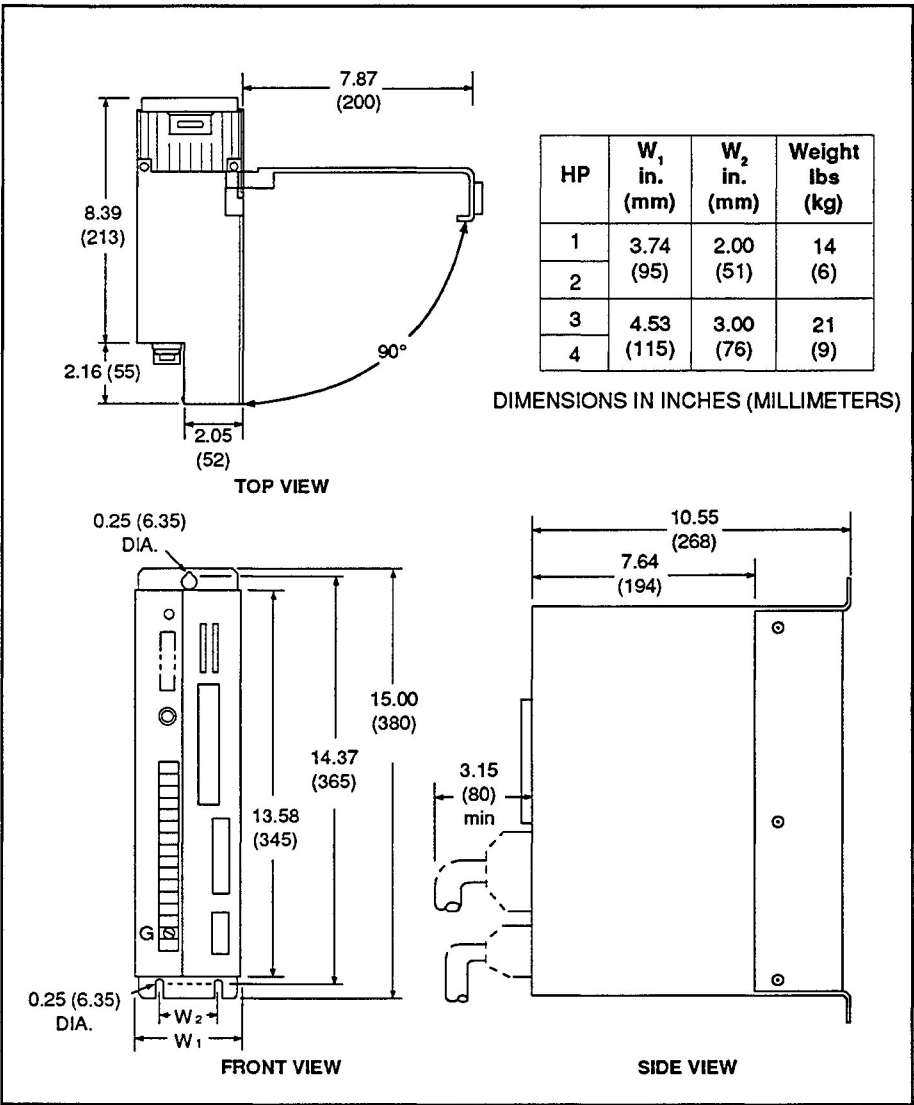

Figure 3-1. Chassis Controller Dimensions and Weights.
2. See Figure 3-1 for controller mounting dimensions. Note that the regulator panel swings 90 degrees to the right.